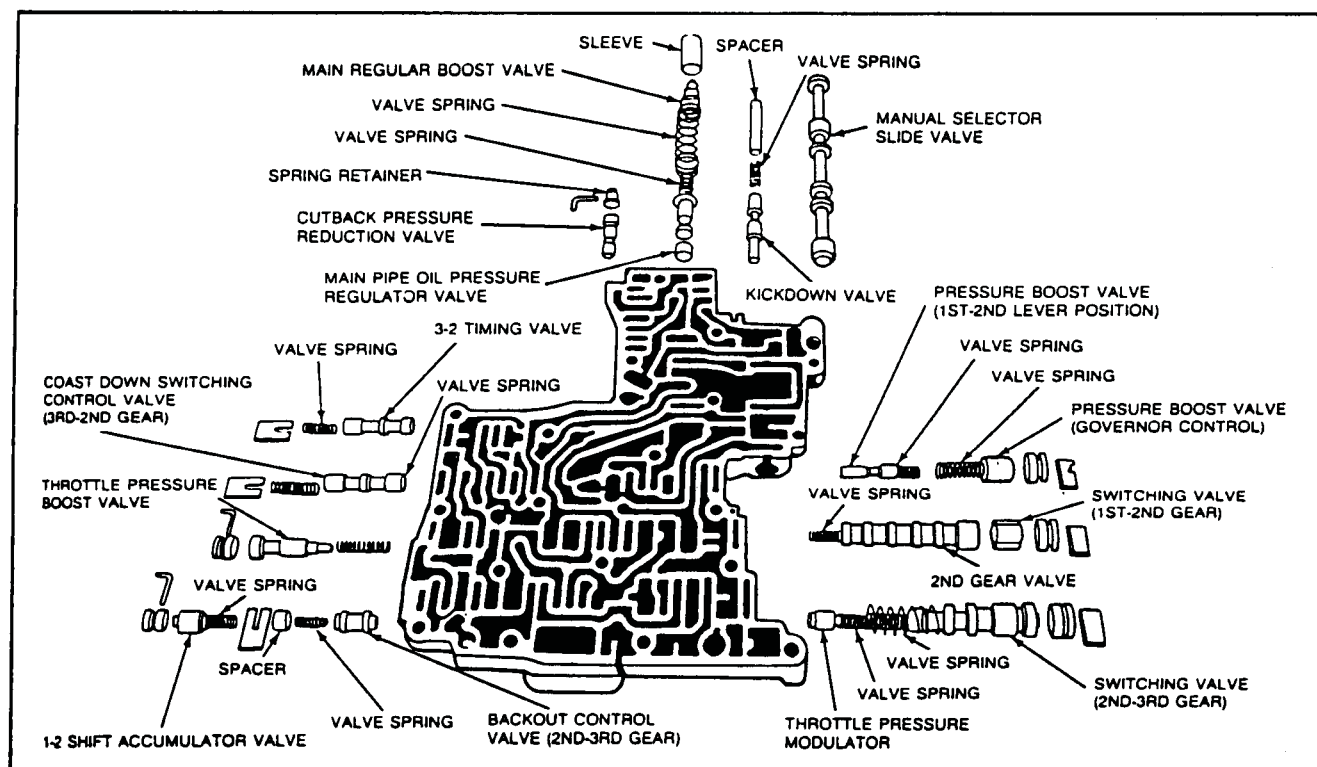

FIG. 40 Control Valve Body Assembly—Exploded View
4. Remove the retaining plates; dowels, plugs and valves with springs. Do not mix the springs (Fig. 40).